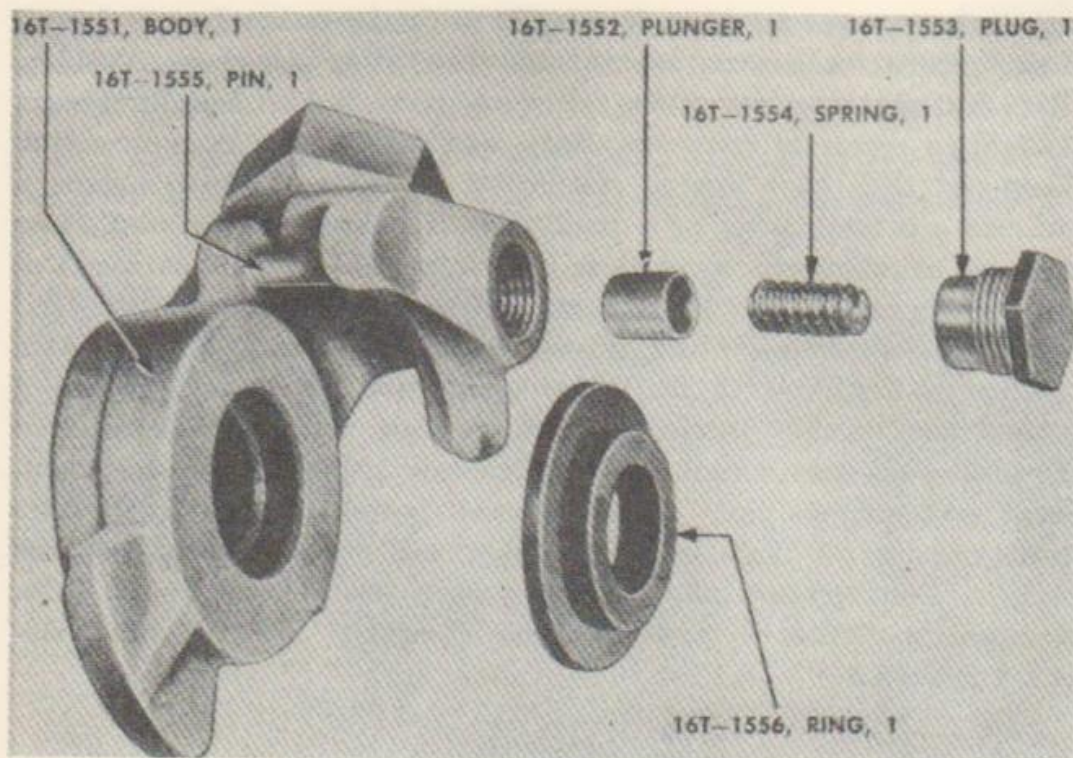

FIGURE 29. COUPLING—EXPLODED VIEW
g. Coupling Disassembly (fig. 29). Remove gasket by prying it out with a screwdriver. Remove spring plug, lock spring and lock plug.